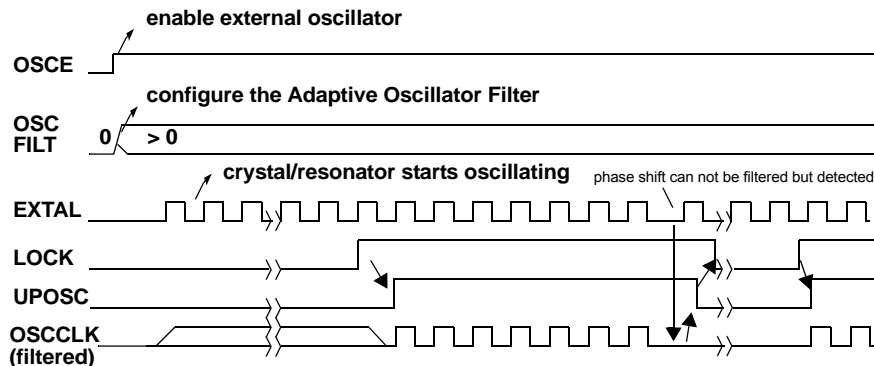

Figure 97. Critical Noise Detected by the Adaptive Oscillator Filter
2. Detect severe noise disturbance on external oscillator clock which can not be filtered and indicate the critical situation to the software by clearing the UPOSC and LOCK status bit and setting the OSCIF and LOCKIF flag. An example for the detection of critical noise is illustrated in Figure 97